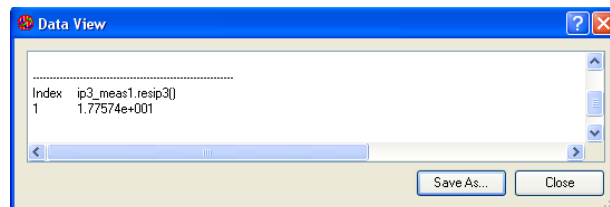

Figure 21: IP3 Point Value
5.3.2: To view calculated IP3 value, select vector resip3 for ip3_meas1 from SMARTVIEW and press **View Data** (Figure 21).